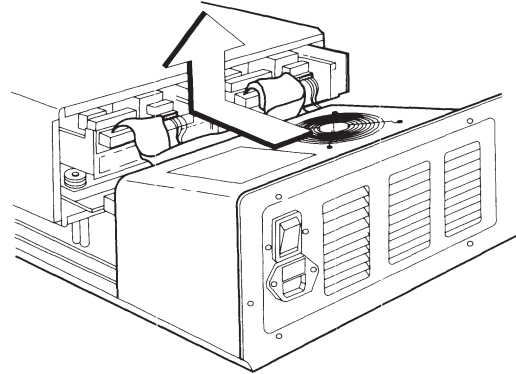

Figure 7-13. Removing the Power Supply Assembly.
4. Slide the power supply assembly toward the drive housing assembly until the power supply assembly is released from the tabs holding it to the bottom of the chassis (Figure 7-13).